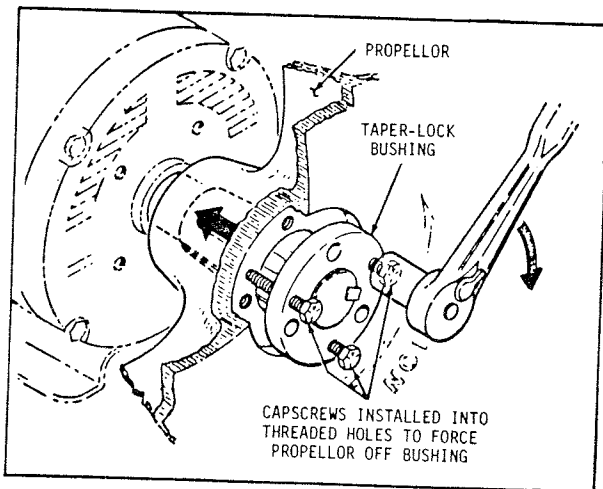

FIG. 10 - CAPSCREW ARRANGEMENT FOR DISASSEMBLY
THREADED BUSHING HOLES - THE THREADED HOLES WITHIN THE BUSHING ARE PROVIDED FOR DISASSEMBLY PURPOSES ONLY. See Figure 10. DO NOT ATTEMPT TO USE THESE HOLES FOR REASSEMBLY, AS THEY WILL NOT ALLOW THE PARTS TO BECOME LOCKED ONTO THE SHAFT, THEREBY CAUSING A HAZARDOUS OPERATING CONDITION.
4. Block propeller to prevent it from turning, and GRADUALLY TURN IN THE CAPSCREWS (up to 1/4 turn at a time), as shown in Figure 10, until the propeller breaks loose from the bushing and motor shaft. Carefully remove bushing and propeller. With the propeller free from the bushing, a wheel puller can be used to pull the bushing off of the motor shaft, if required. Reattach bushing onto propeller to prevent the loss of parts.